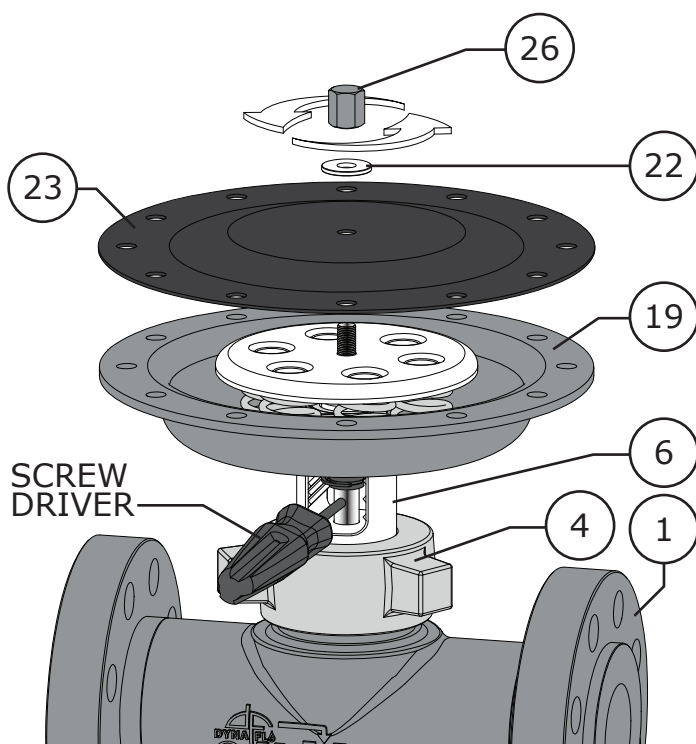

Figure 16 Fail Open Actuator Disassembly (Steps 1 - 3)
- 1 A 9/16" wrench will be required to remove the stem nut (Key 26). **NOTE:** It may be necessary to immobilize the valve stem (Key 15) using a screwdriver or rod to keep the valve stem from rotating while removing the stem nut. Refer to Figure 16.